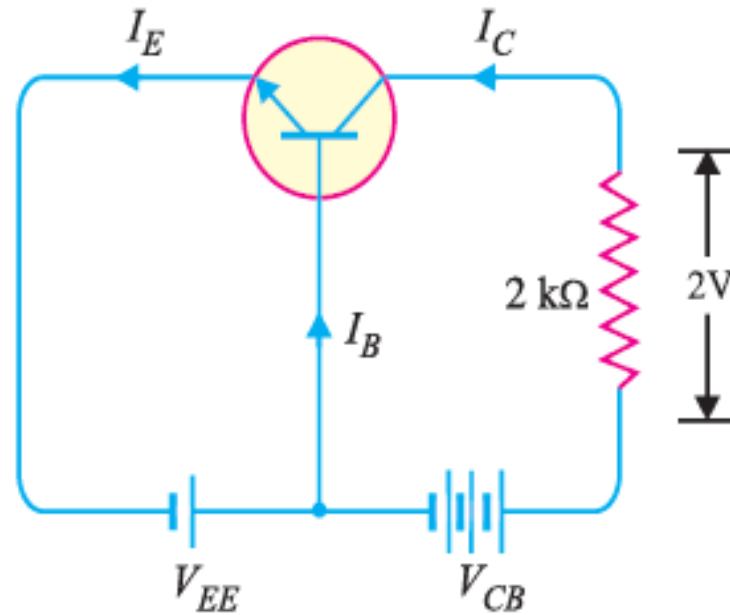

Fig. 2
- Fig. 2 shows the required common base connection.